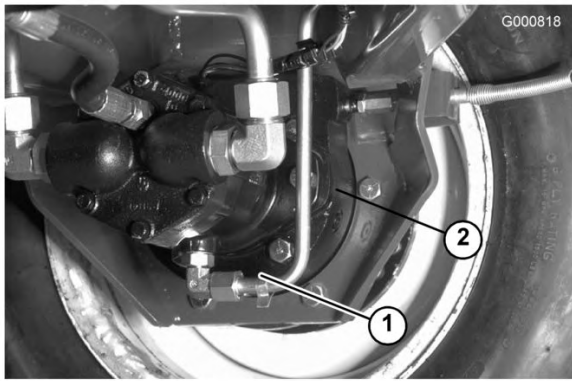

Figure 68
3. Remove both plugs from the bottom of the brake housing and allow the oil to drain (Figure 68).